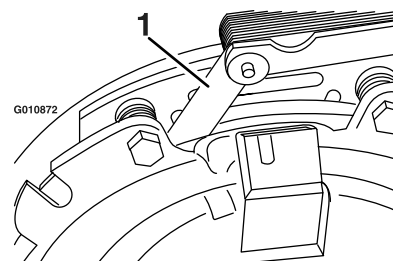
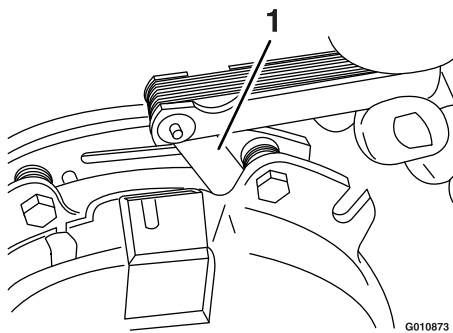

Figure 76
Figure 77
- E. Using a 0.25 mm (0.01 inch) thick feeler gauge, verify that a gap is present between the rotor and the armature face on both sides of the brake pole as shown in Figure 76 and Figure 77.